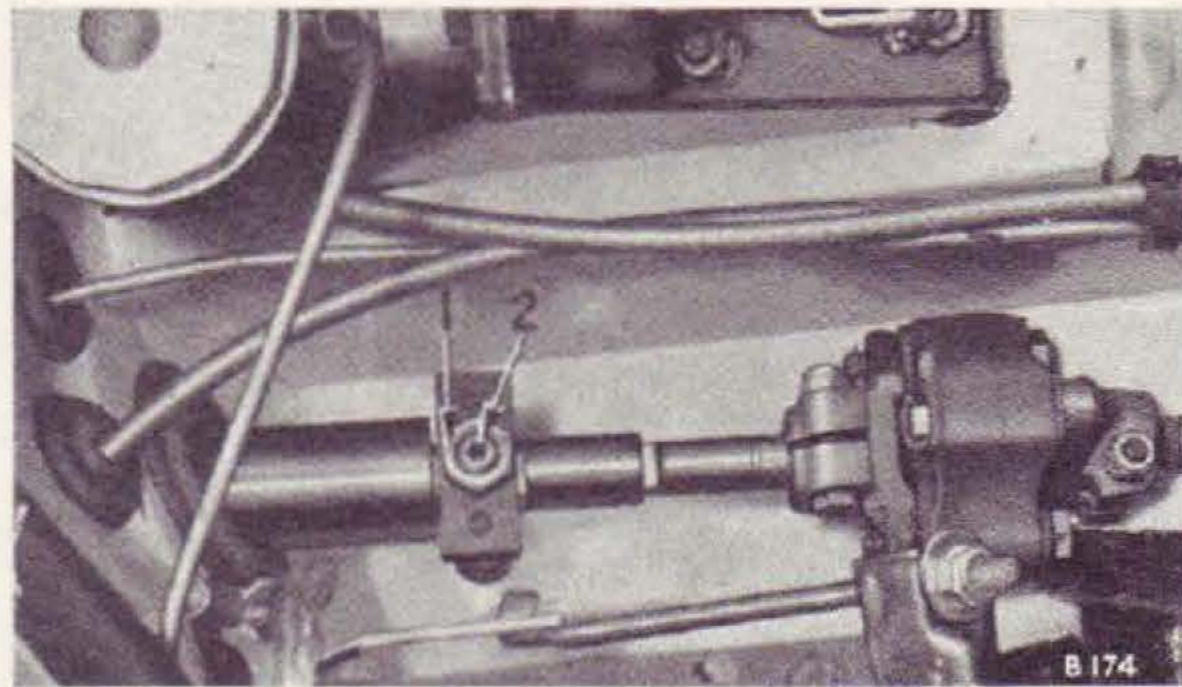

Fig. 52
1. Slacken the impact clamp lock nut, (1) Fig. 52, and unscrew the socket head screw (2) with a $\frac{1}{8}$ " A.F. socket key.